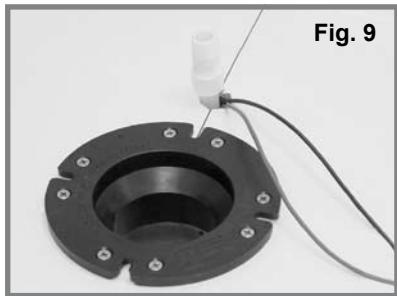

Fig. 9
STEP 9: WITH THE ELECTRICAL POWER OFF, route #14 gauge stranded copper wire from 12 VDC ground and positive 12 VDC from the fuse panel through a 2-amp fuse or circuit breaker. Leave at least 12 inches (305 mm) of wire for connecting to toilet (fig. 9).